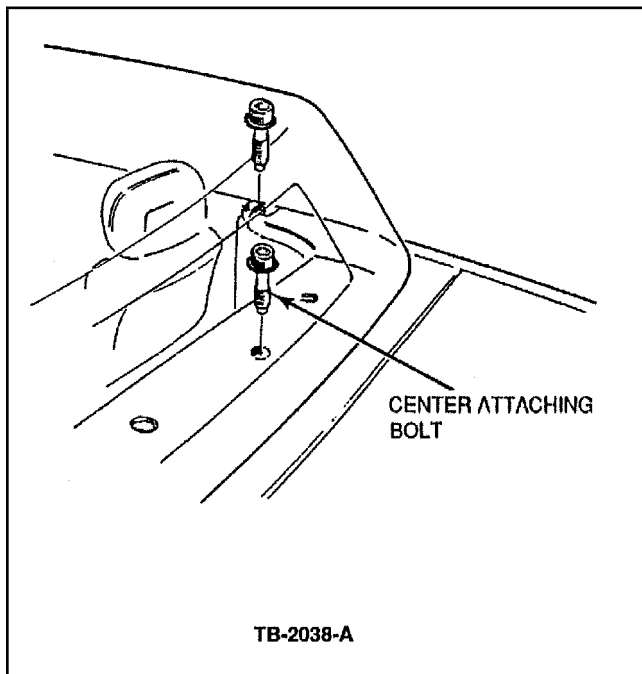

Figure 9 - Article 91-20-2
17. Applying downward pressure to the front edge of the hardtop, tighten the windshield header bolts to a torque of 15-19 lb.ft. (20-25 N•m), Figure 9.